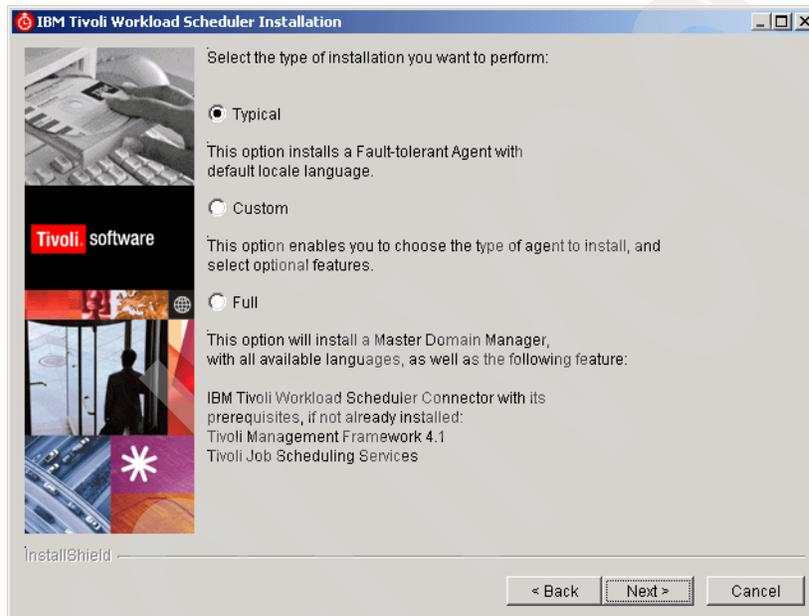

Figure 15-25 IBM Tivoli Workload Scheduler Installation type
8. Choose the type of installation (Figure 15-25):